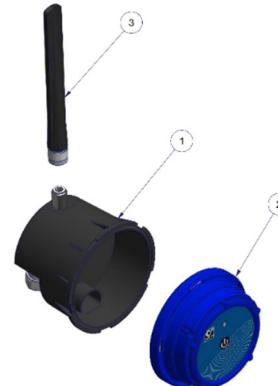

Figure 1 D35 parts
- c. (1) or (A): Circled numbers and letters in the text refer to the parts described in Figure 1 and 2 respectively (example: Figure 1 - page 5)